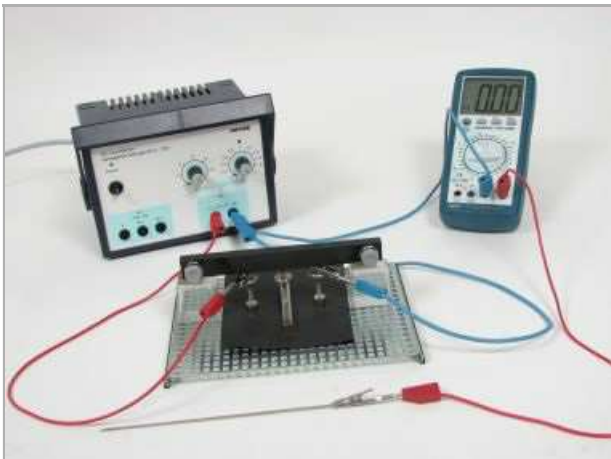

Fig. 14
- Fix the rod electrode below the middle knurled screw, with the rod positioned along the axis of symmetry between the two circular electrodes (Fig. 14). In this experiment the rod electrode serves as an electric conducting surface within the electric field of the circular electrodes.